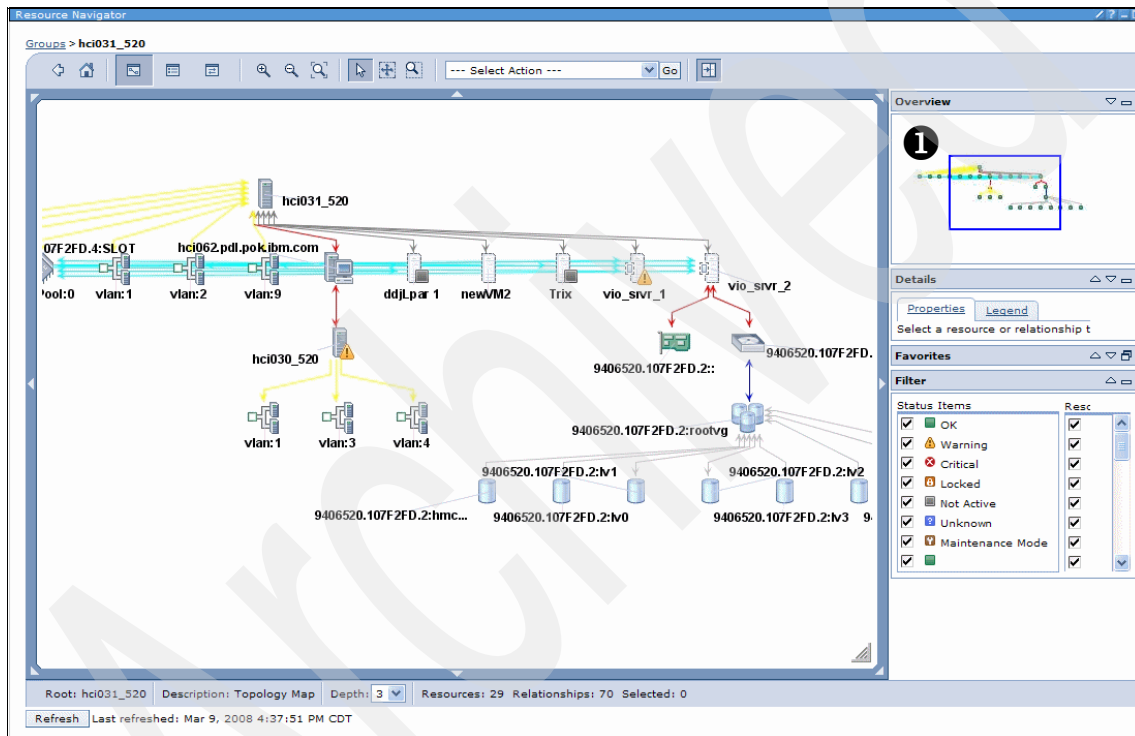

Figure 4-17 Topology map view
2. Click the **context menu icon** next to the desired resource, and select **Topology Map**. The topology map view opens, as shown in Figure 4-17.
**Note:** You can move the blue rectangle (as indicated at the number 1 in Figure 4-17) to navigate the topology map and also to enlarge topology view to look up the systems in detail. For more information, refer to: